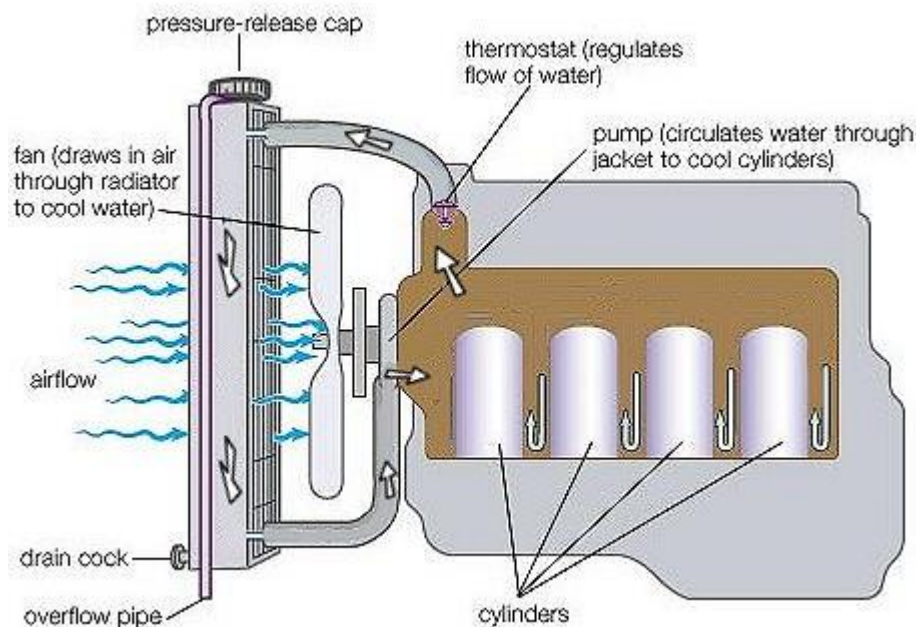

Fig. 1
- This excess heat is removed by an engine cooling system, the essential components of which are shown in Fig. 1 and are described in the next section.
- The water jackets consist of an outer wall around the cylinders. Between the cylinders and the wall is a space through which the water runs. The water jackets enable the water to circulate around the cylinders, valve seats, valve guides and the cylinder head (Fig. 1 above).